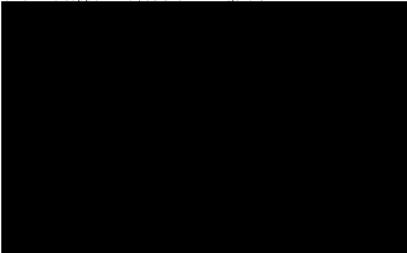

Figure5.
- Put the Rail on the support line., as shown in figure 5.